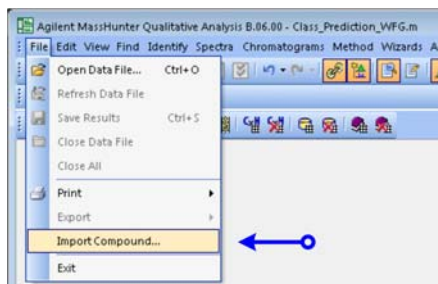

Figure 21 Confirmation that your changes to the user interface configuration are successful is the appearance of the **Import Compound** command in the **File** menu.
- e Check to make sure that **File > Import Compound** is an available command. See Figure 21. This command is necessary to review CEF files before importing them into Mass Profiler Professional.